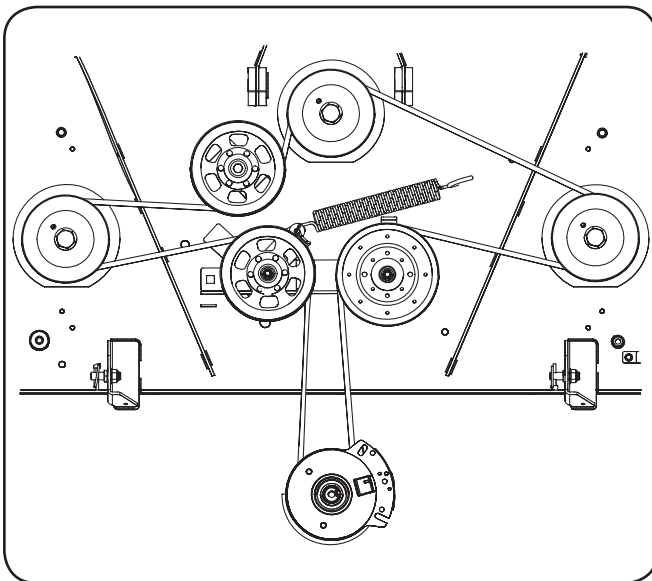

Figure 7-9
6. Place the belt around the idler pulleys removed in step 3 with the "V" side facing in. Once in place, reinstall all the hardware and tighten the flange lock nut to secure the assembly. See Figure 7-9.
7. Route the belt as shown in Figure 7-9 and then reinstall the deck (refer to Deck Installation on page 30).